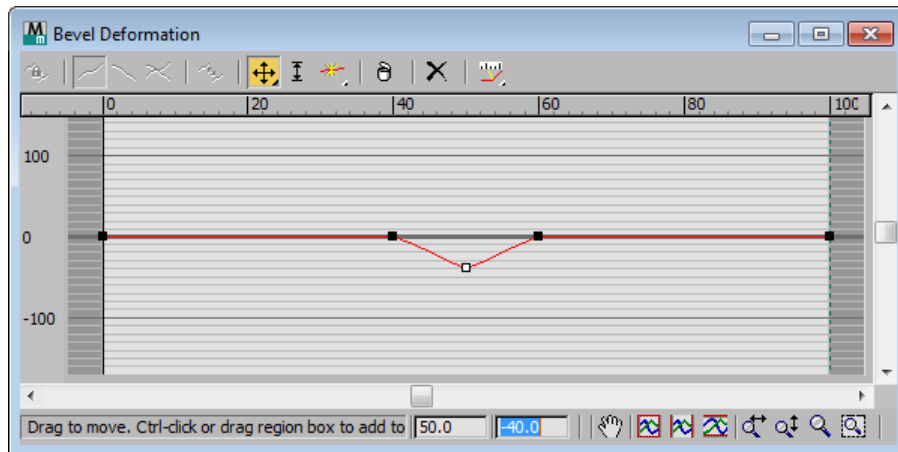

Figure 9-12 The three vertices added in the *Bevel Deformation* dialog box and the middle vertex moved down
4. Pick the **Move Control Point** button and at the point near to 60, move the vertex at point 50 down by 4 lines so that -40 is displayed in the right-hand text box, **Figure 9-12**.